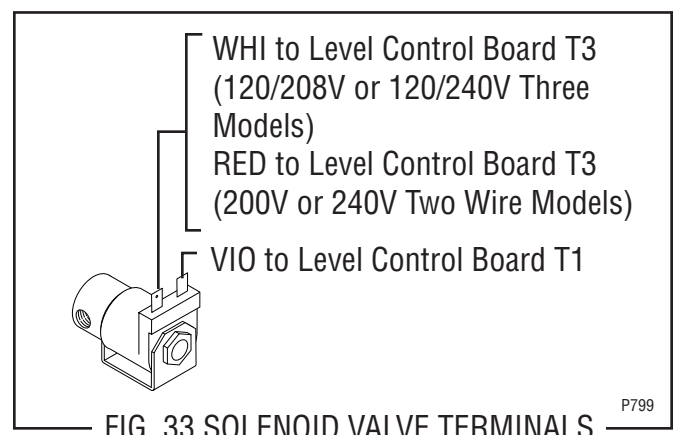

FIG. 33 SOLENOID VALVE TERMINALS
10. Refer to Fig. 33 when reconnecting the wires.